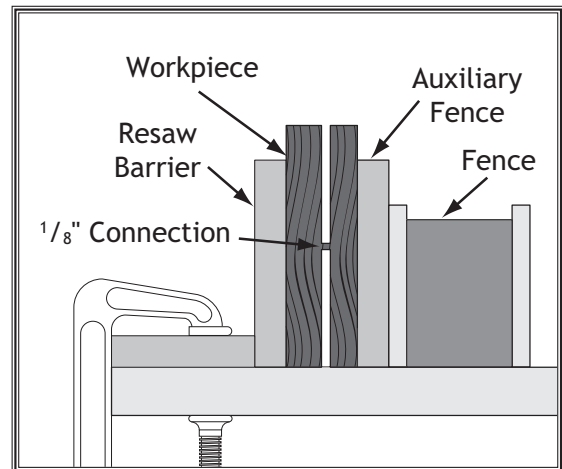

Figure 69. Ideal completed resaw cut.
- Raise the blade approximately an inch, or close to half the height of the workpiece (**Figure 69**), whichever is less.
- Repeat **Steps 7-9** until the blade is close to half of the height of the board to be resawn. The ideal completed resaw cut will leave a $\frac{1}{8}$ " connection when the resawing is complete as shown in **Figure 69**. Leaving a $\frac{1}{8}$ " connection will reduce the risk of kickback.